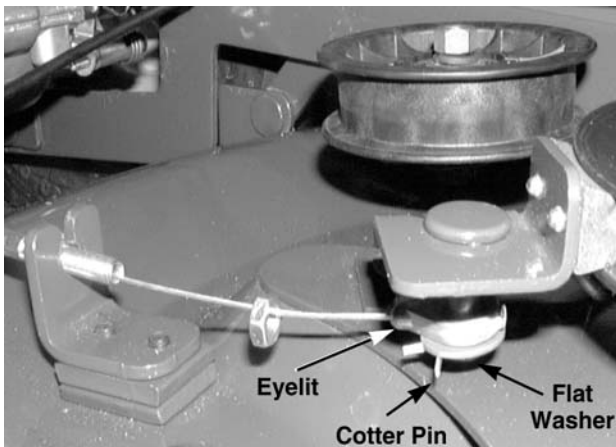

Figure 8-35.
3. Remove the deck cable eyelit from the brake bracket pin. See Figure 8-35.